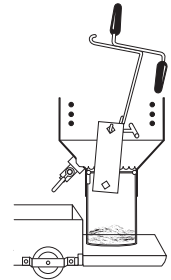

FIGURE 18
5. Remove Heat Plate - Inspect from above to see that cooking oil has drained out of cookpot down to level of drain valve. Wearing safety gloves, remove heat plate with basket drain hook (Figure 18) and place in